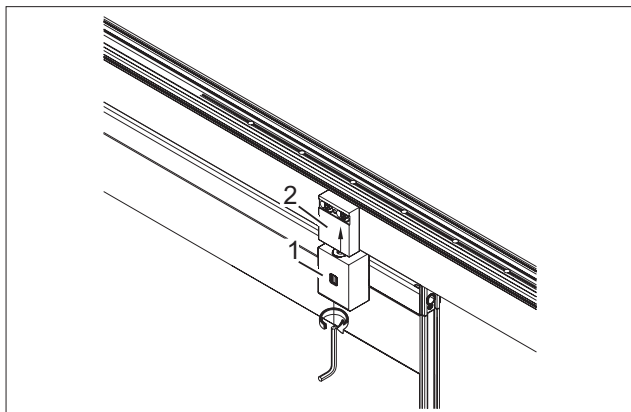

Fig. 39 Winding up the bolts
3. Wind up the bolts in the slide bolt bottom section (Fig. 39/1) to connect the slide bolt bottom section (Fig. 39/1) with the slide bolt top section (Fig. 39/2).